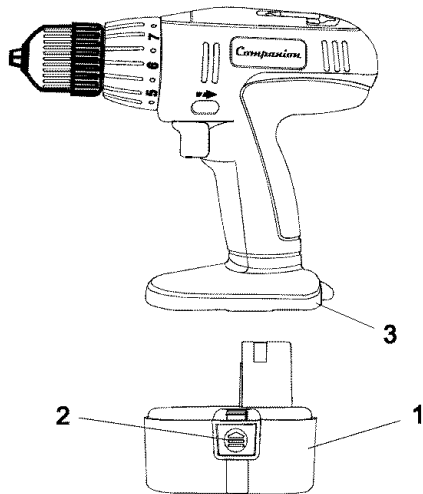

Fig. 2
1. Remove the discharged battery (1) from the tool by pressing on the battery release buttons (2) on each side of the battery and pulling the battery out of the tool handle (3) (see Fig. 2).